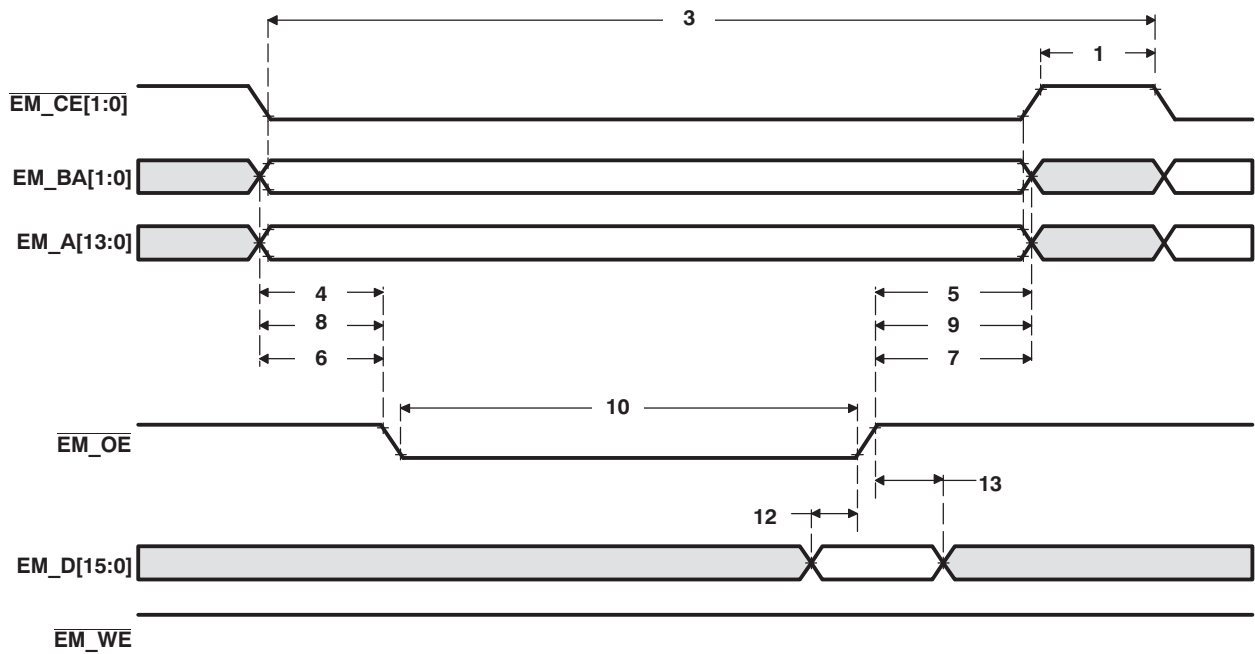
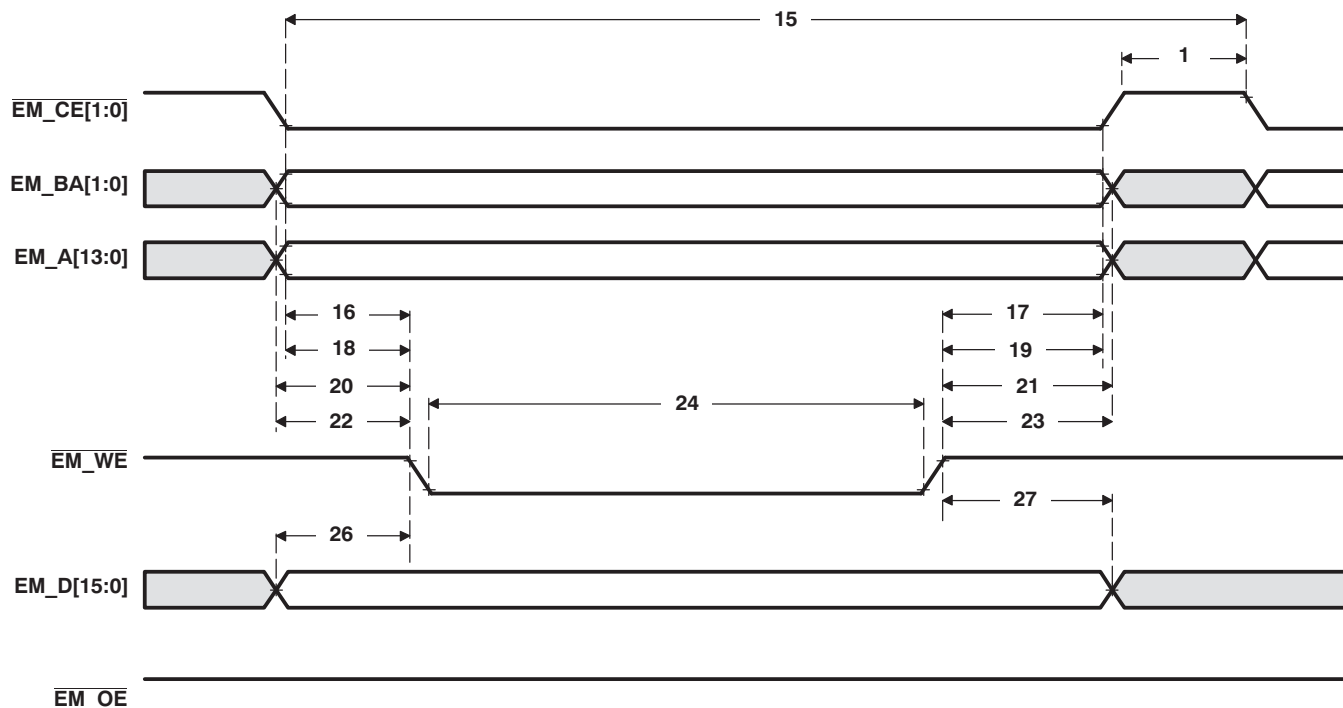

Figure 5-14. Asynchronous Memory Read Timing for EMIF
Figure 5-15. Asynchronous Memory Write Timing for EMIF
Table 5-13. Timing Requirements for Asynchronous Memory Cycles for AEMIF Module⁽¹⁾ (see Figure 5-14 and Figure 5-15)
Table 5-14. Switching Characteristics Over Recommended Operating Conditions for Asynchronous Memory Cycles for AEMIF Module^{(1) (2) (3)} (see Figure 5-14 and Figure 5-15)
Table 5-14. Switching Characteristics Over Recommended Operating Conditions for Asynchronous Memory Cycles for AEMIF Module ⁽¹⁾ ⁽²⁾ ⁽³⁾ (see Figure 5-14 and Figure 5-15) (continued)